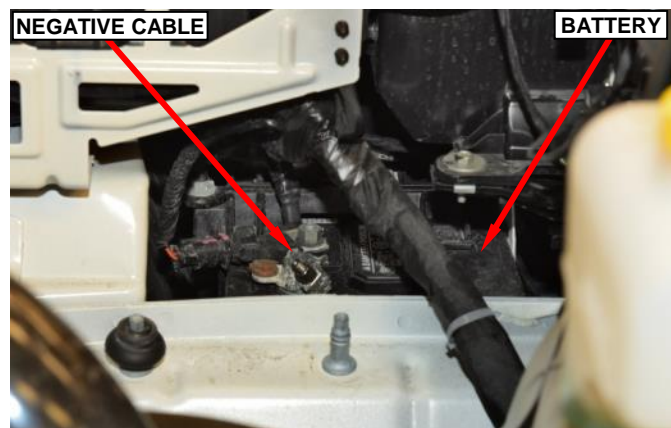

Figure 68 – Battery Negative Cable
17. Disconnect and isolate the battery negative cable from the battery (Figure 68).